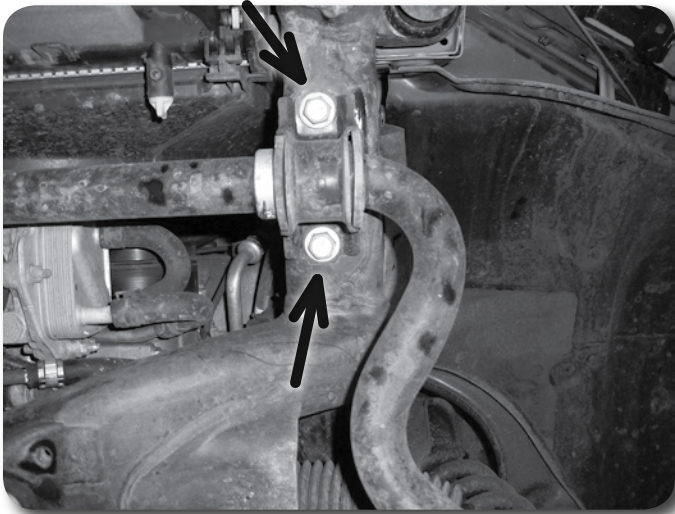
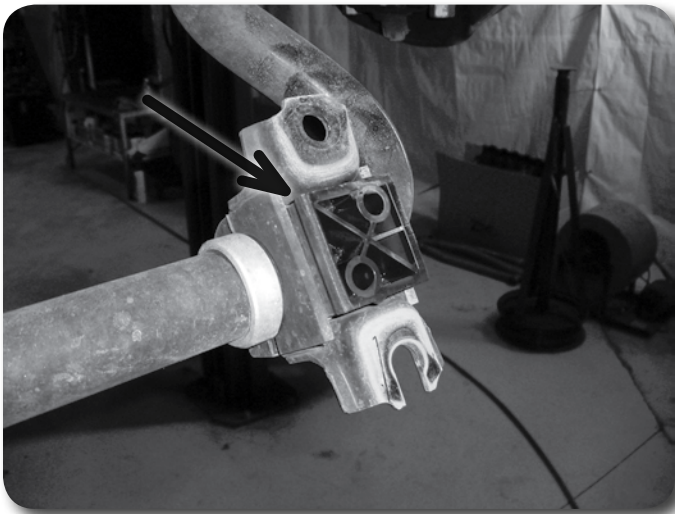

Figure 5A
Figure 5B
8. Note how the sway bar is oriented on the vehicle. Disconnect the sway bar mounts from the frame rails and remove the sway bar from the vehicle. **Figure 5A** Take care not to lose the plastic frame bushing spacers. **Figure 5B** Save mounting hardware.